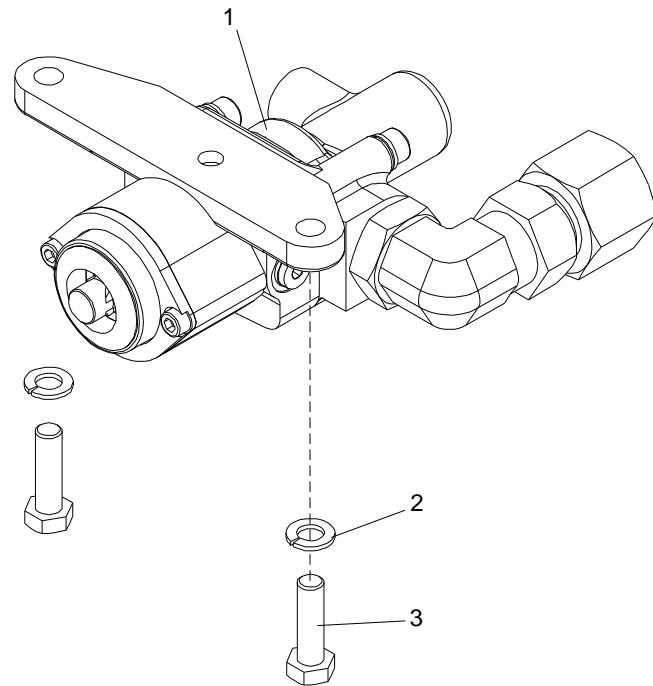

Figure 7-27: Replacement of MRP Valve
3. Take notes how the pneumatic connections are connected to the MRP valve (1) and loosen the connections. See Figure 7-27.
4. Remove the MRP valve (1) by removing the screws (3) and washers (2).
2. Fit the MRP valve (1) and mount the washers (2) and screws (3). See Figure 7-27.
3. Connect pneumatic connections to the MRP valve (1) according to previous notes.